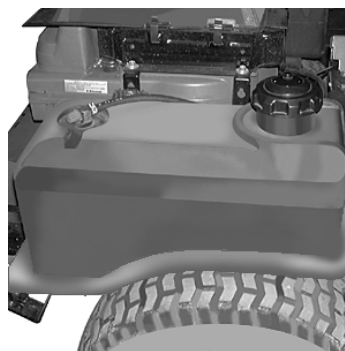

Figure. 4
8. **Fuel Shutoff Valve:** (See Figure 4.) Located behind the operator’s seat, the valve has three (3) positions: “off”, “Left Tank”, “Right Tank”. Close this valve if you are not going to run the mower for a period of 30 minutes or more to prevent flooding the engine. The fuel system operates under pressure when the engine is running.